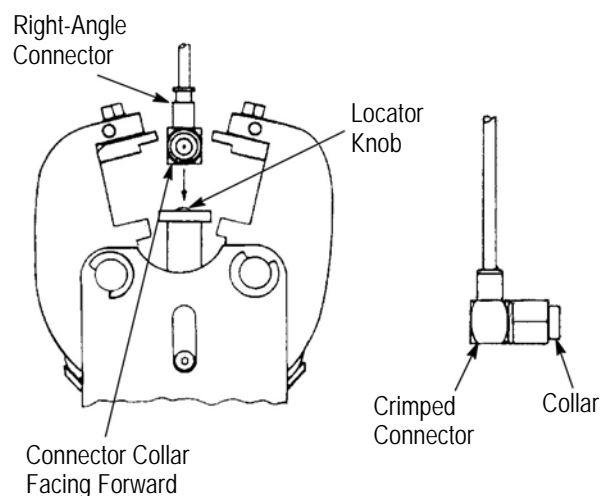

Figure 11
1. Slide the connector, flange end first, over the cable end as shown in Figure 11.
— the connector collar faces forward, as shown in Figure 11